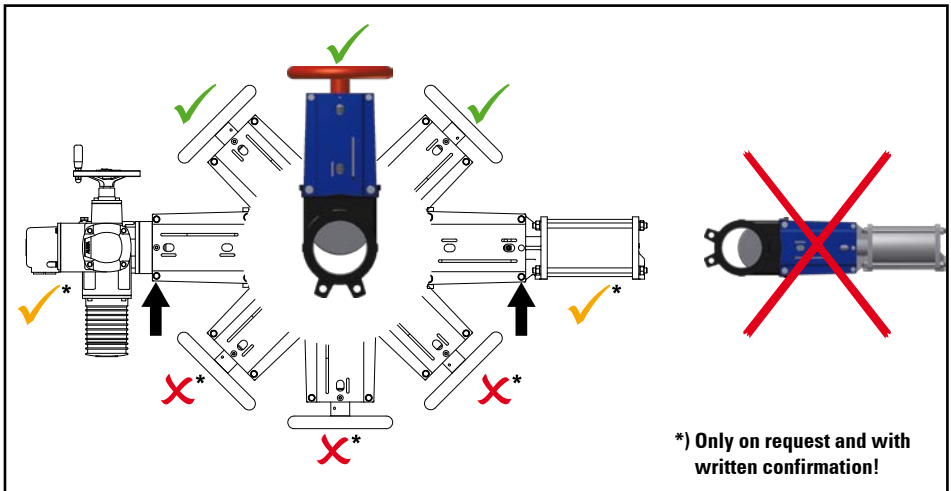

Fig. 6.2 - Knife-gate valve, installation positions
**All knife-gate valves should be installed vertically up to max. 45° to the vertical. For other installation positions e.g. horizontally it is necessary to ensure that especially for larger diameters and actuators no bending stress appear at the stem/top- bridges, piston- stem etc., otherwise the function of the actuator and the tightness of the valve is not guaranteed. In such cases protective features are definitely needed (please refer to Fig. 6.2).**